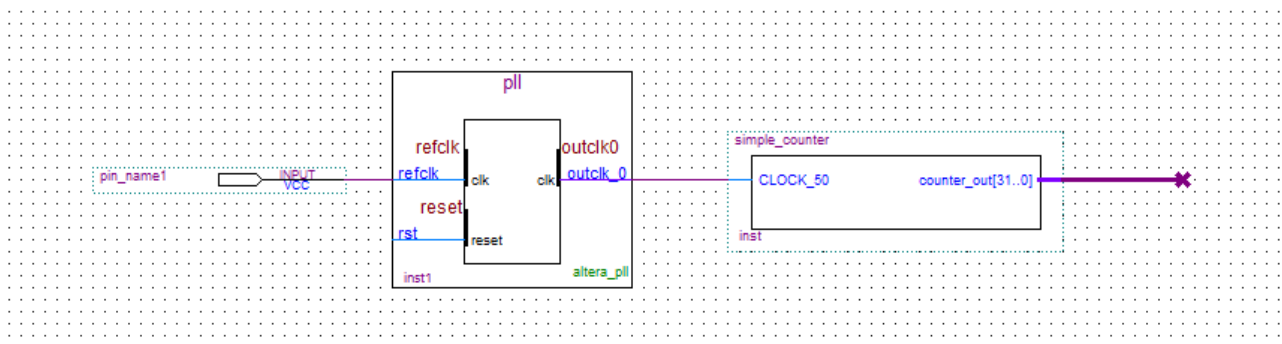

Figure 3-18 Connecting the PLL symbol and Input port
- e. Use the mouse to click and drag the new input pin to the left; notice that the ports remain connected as shown in **Figure 3-18**.